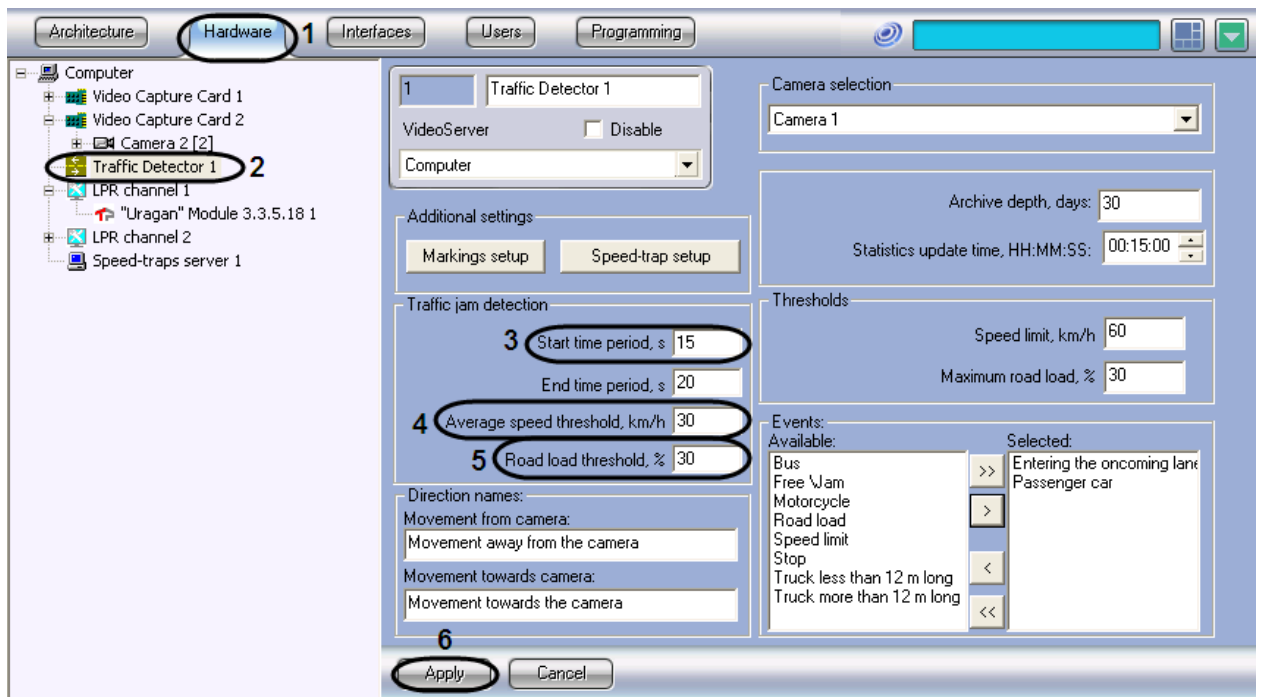

Fig. 7.4—17 Setting up the jam detection parameters
2. In the object tree on the left side of the Hardware tab, select the Traffic Detector object representing the Traffic Detector module to be set up. The settings panel of the selected object will open on the right side of the window (see Fig. 7.4—17).